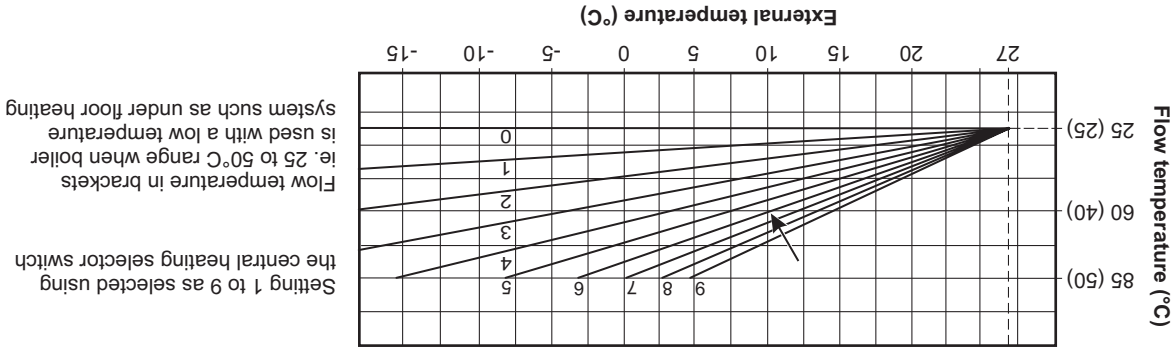
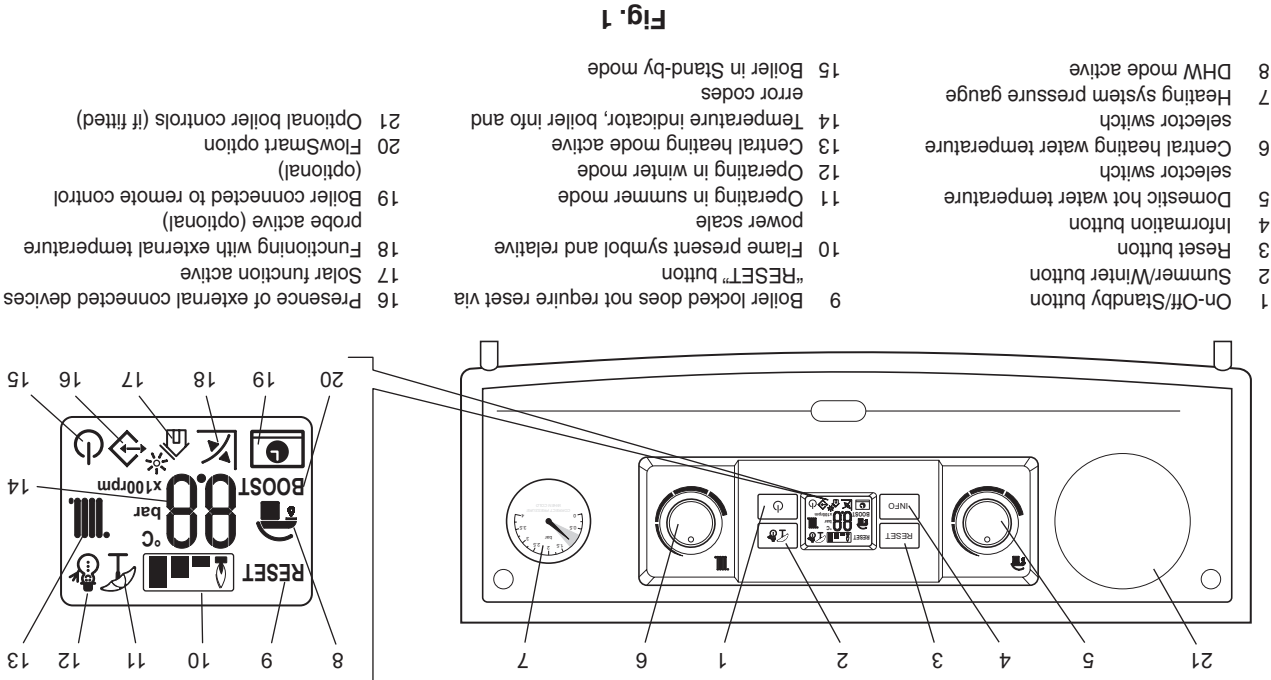

Fig. 2 - External weather compensation probe fitted
Fig. 1
On - In this mode the boiler can be switched between 'Summer' or 'Winter' settings by pressing the Summer/Winter button (item 2 in Fig. 1).
The temperature of the hot water to the taps can be adjusted by turning the hot water selector switch (item 5 in Fig. 1) to the required value shown on the display in °C.
The temperature of the central heating water can be adjusted by turning the central heating selector switch (item 6 in Fig. 1). When the heating is on the temperature of the water leaving the boiler to the radiators will be displayed.
If an external weather compensation probe is fitted, indicated by the  symbol (item 18 in Fig. 1) in the display, it will automatically vary the temperature of the water in the radiators and on mild day the radiators will not feel as hot as on a cold day, this is normal and not a fault with the boiler or heating circuit. The room temperature will still be maintained as set by the room thermostat.
When an external weather probe is fitted, the central heating selector switch (item 6 in Fig. 1) will no longer adjust the flow temperature in °C, instead the display will show a scale of 1 to 9. Each number corresponds to a line on the graph in Fig 2 i.e. line 6 will give a flow temperature of 60°C when the external temperature is 10°C.
These taps should normally be in the closed position 90° to the tap housing. To fill or pressurise the system open one tap fully by turning it 90° anticlockwise in line with the tap housing. The second tap should be opened a quarter of a turn and the water will start to refill the system (water should be heard filling the system). You should see the pressure gauge (item 7 in Fig. 1) rise back up into the green area on the pressure gauge between 1 bar and 1.5 bar pressure.
Make sure the heating system is filled and the needle on the pressure gauge (item 7 in Fig. 1) is in the green band. If incorrect refer to Section 5.
Switch the boiler on at the mains supply socket switch. The boiler will automatically go through a system purging operation for 8 minutes; this is indicated by a count down on the display starting from 96. During this operation the pump will turn on and off to help remove any air that may be trapped in the heating system. If the boiler has already been commissioned by the installer then this operation can be terminated by pressing the reset button (item 3 in Fig. 1).
By pressing the On-Off button (item 1 in Fig. 1) the Standby or On mode can be selected, or press and hold the On-Off button for eight seconds to turn the boiler off.